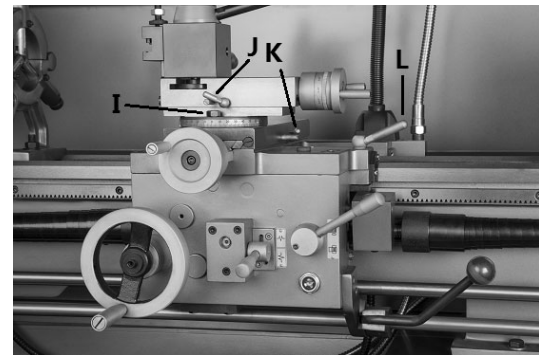

Figure 9-3
17. **Compound Rest Lock** (I, Figure 9-3) – Turn hex nut clockwise to lock and counterclockwise to unlock.
20. **Carriage Lock** (L, Figure 9-3) – Turn hex socket cap screw clockwise and tighten to lock. Turn counterclockwise and loosen to unlock.